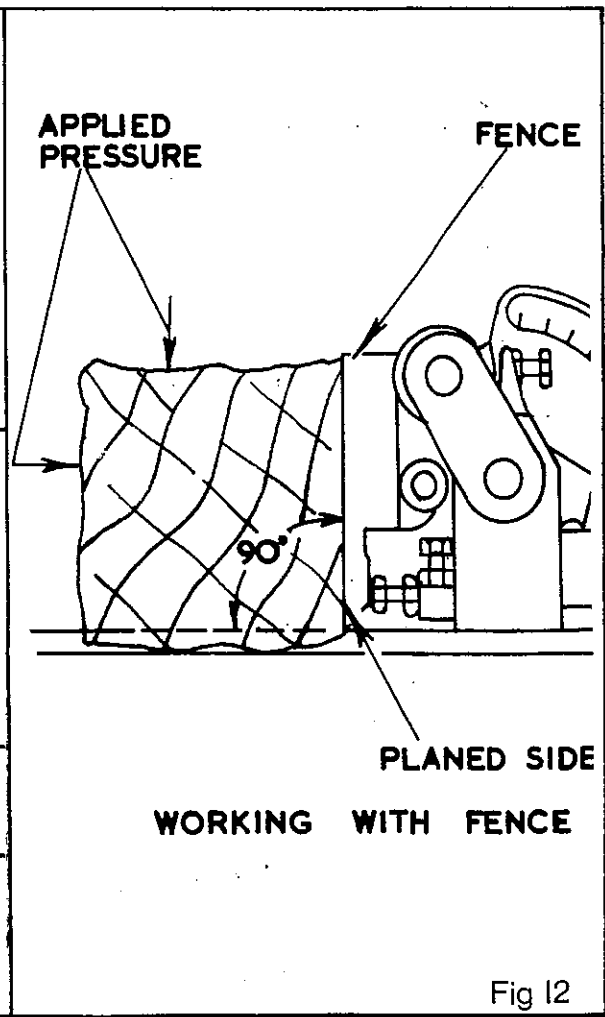

Fig 12
4. When planing four sides of timber, square turn the timber anti-clockwise after each cut, so that there will always be a machined face next to the fence as in Fig. 12. The fence locates accurately at 90° .